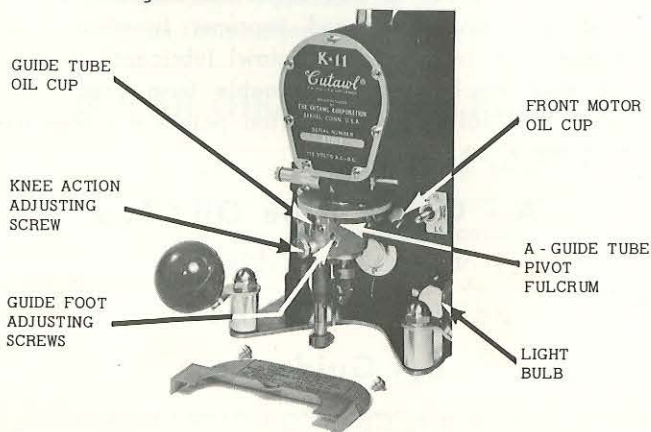
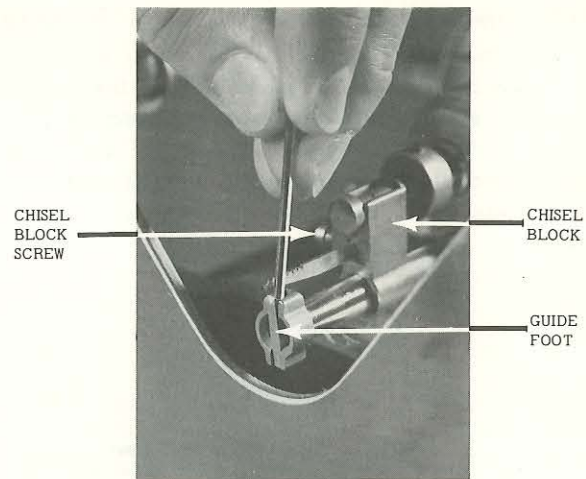

Figure 10
Figure 11
The guide tube is pivoted on a fulcrum at point A (See Fig. 10). A pair of springs hold the guide tube perfectly vertical when there is no pressure on the blade. When pressure develops on the blade, the guide tube moves back to relieve the drag and moves forward again when the drag is reduced. The amount of knee action of the guide tube can be adjusted or eliminated by turning the knee action adjusting screw. Generally, when you are cutting material over 3/8" thick, the guide tube should be rigid with no knee action. Turn the knurled screw tightly to the right to eliminate the knee action. For materials less than 3/8" thick, the knee action is generally desirable. Maximum knee action is obtained by turning the knurled screw to the left.
To check this alignment, turn the machine up as shown in Fig. 11. Lock the swivel mechanism in the forward position and put a straight blade in the chisel block, being sure to tighten both chisel block screws firmly. Turn the driven pulley until the blade is in its uppermost position. Now take the set screw key furnished with your machine (or any other suitable tool) and depress the guide foot by pushing down on either side of the guide foot with the end of the set screw key, as shown in Fig. 11. Watch the blade as you do this to see if it has a tendency to move to the left or right when the guide foot is depressed. If the blade remains directly in the center line of the guide foot, no adjustment is necessary but it would be a good idea to check the guide foot adjusting screws to be sure they are tight. Put the long end of the key in each one of the four holes (See Fig. 10) and turn it to the right until you feel it drop into the screw socket, then turn it very firmly.
1. Loosen the two top screws (one on each side see Fig. 10) one-half turn leaving the two bottom screws snug.
5 - Replacement of light bulbs (See Fig. 10).